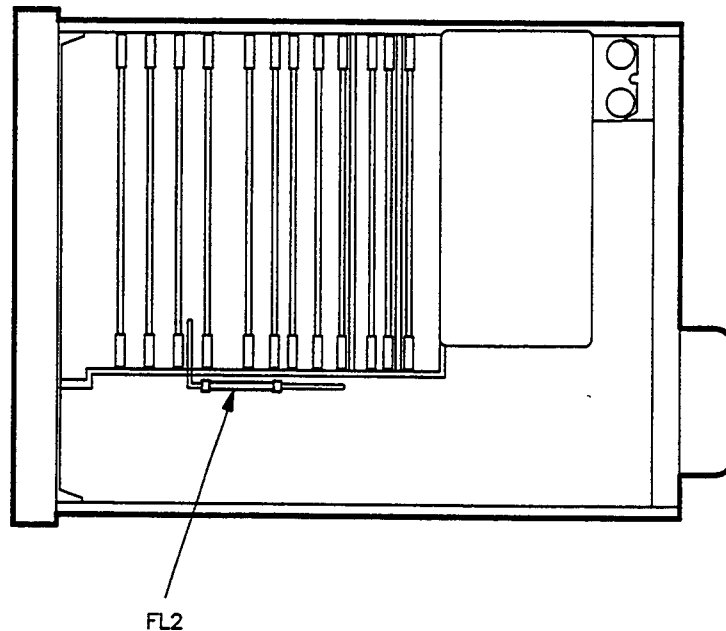

Figure 3-7. FL2 Location
1. Turn the synthesizer to standby. At FL2 (see figure 3-7), disconnect the semi-rigid cable between FL2 and the A6 assembly.